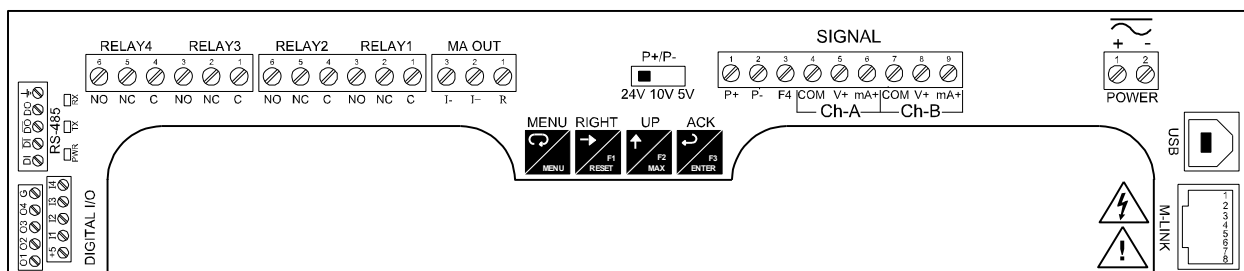

Figure 7. Connector Labeling for Fully Loaded PD2-6060
Power connections are made to a two-terminal connector labeled POWER on Figure 7 on page 13. The meter will operate regardless of DC polarity connection. The + and - symbols are only a suggested wiring convention.
Signal connections are made to a nine-terminal connector labeled SIGNAL on Figure 7. The COM (common) terminals are the return for the 4-20 mA and the ± 10 V input signals. The two COM terminals connect to the same common return, and are not isolated.
Serial communications connection can be made to the onboard RS485 terminal block or USB connector shown in Figure 7. If RS232 is required, an RS485 to RS232 adapter (PDA7485) may be used. See Ordering Information on page 5 for additional information.
Relay connections are made to two six-terminal connectors labeled RELAY1 – RELAY4 on Figure 7. Each relay's C terminal is common only to the normally open (NO) and normally closed (NC) contacts of the corresponding relay. The relays' C terminals should not be confused with the COM (common) terminal of the INPUT SIGNAL connector.